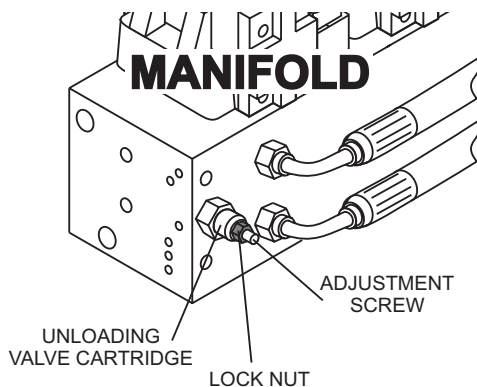

Figure 56. Unloading Valve Cartridge Adjustment
2. Loosen the lock nut on the **unloading valve cartridge** (Figure 56) and using an allen wrench, turn the adjusting screw **clockwise** until it is completely closed.